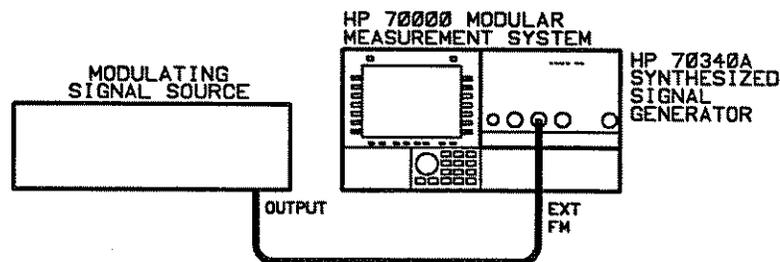

Figure 3-1. AC FM Equipment Setup
1. Connect the equipment as shown in Figure 3-1:
In the following example, an internally leveled, AC coupled FM signal will be generated at a carrier frequency of 12.5 GHz with a power level of  $-5$  dBm. In order to accomplish this, connect the equipment as shown in Figure 3-1, set the modulating signal source for the desired FM characteristics, and then run the following program.